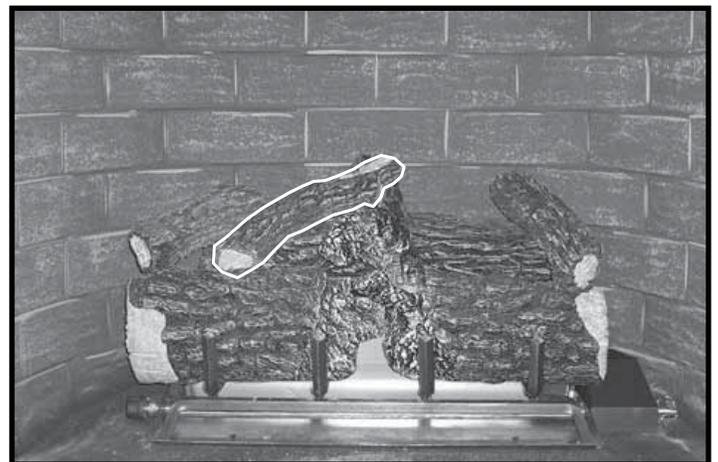

Figure 8.10 Place Top Center Log - 36
- Place the left and right center logs as shown in Figure 8.10